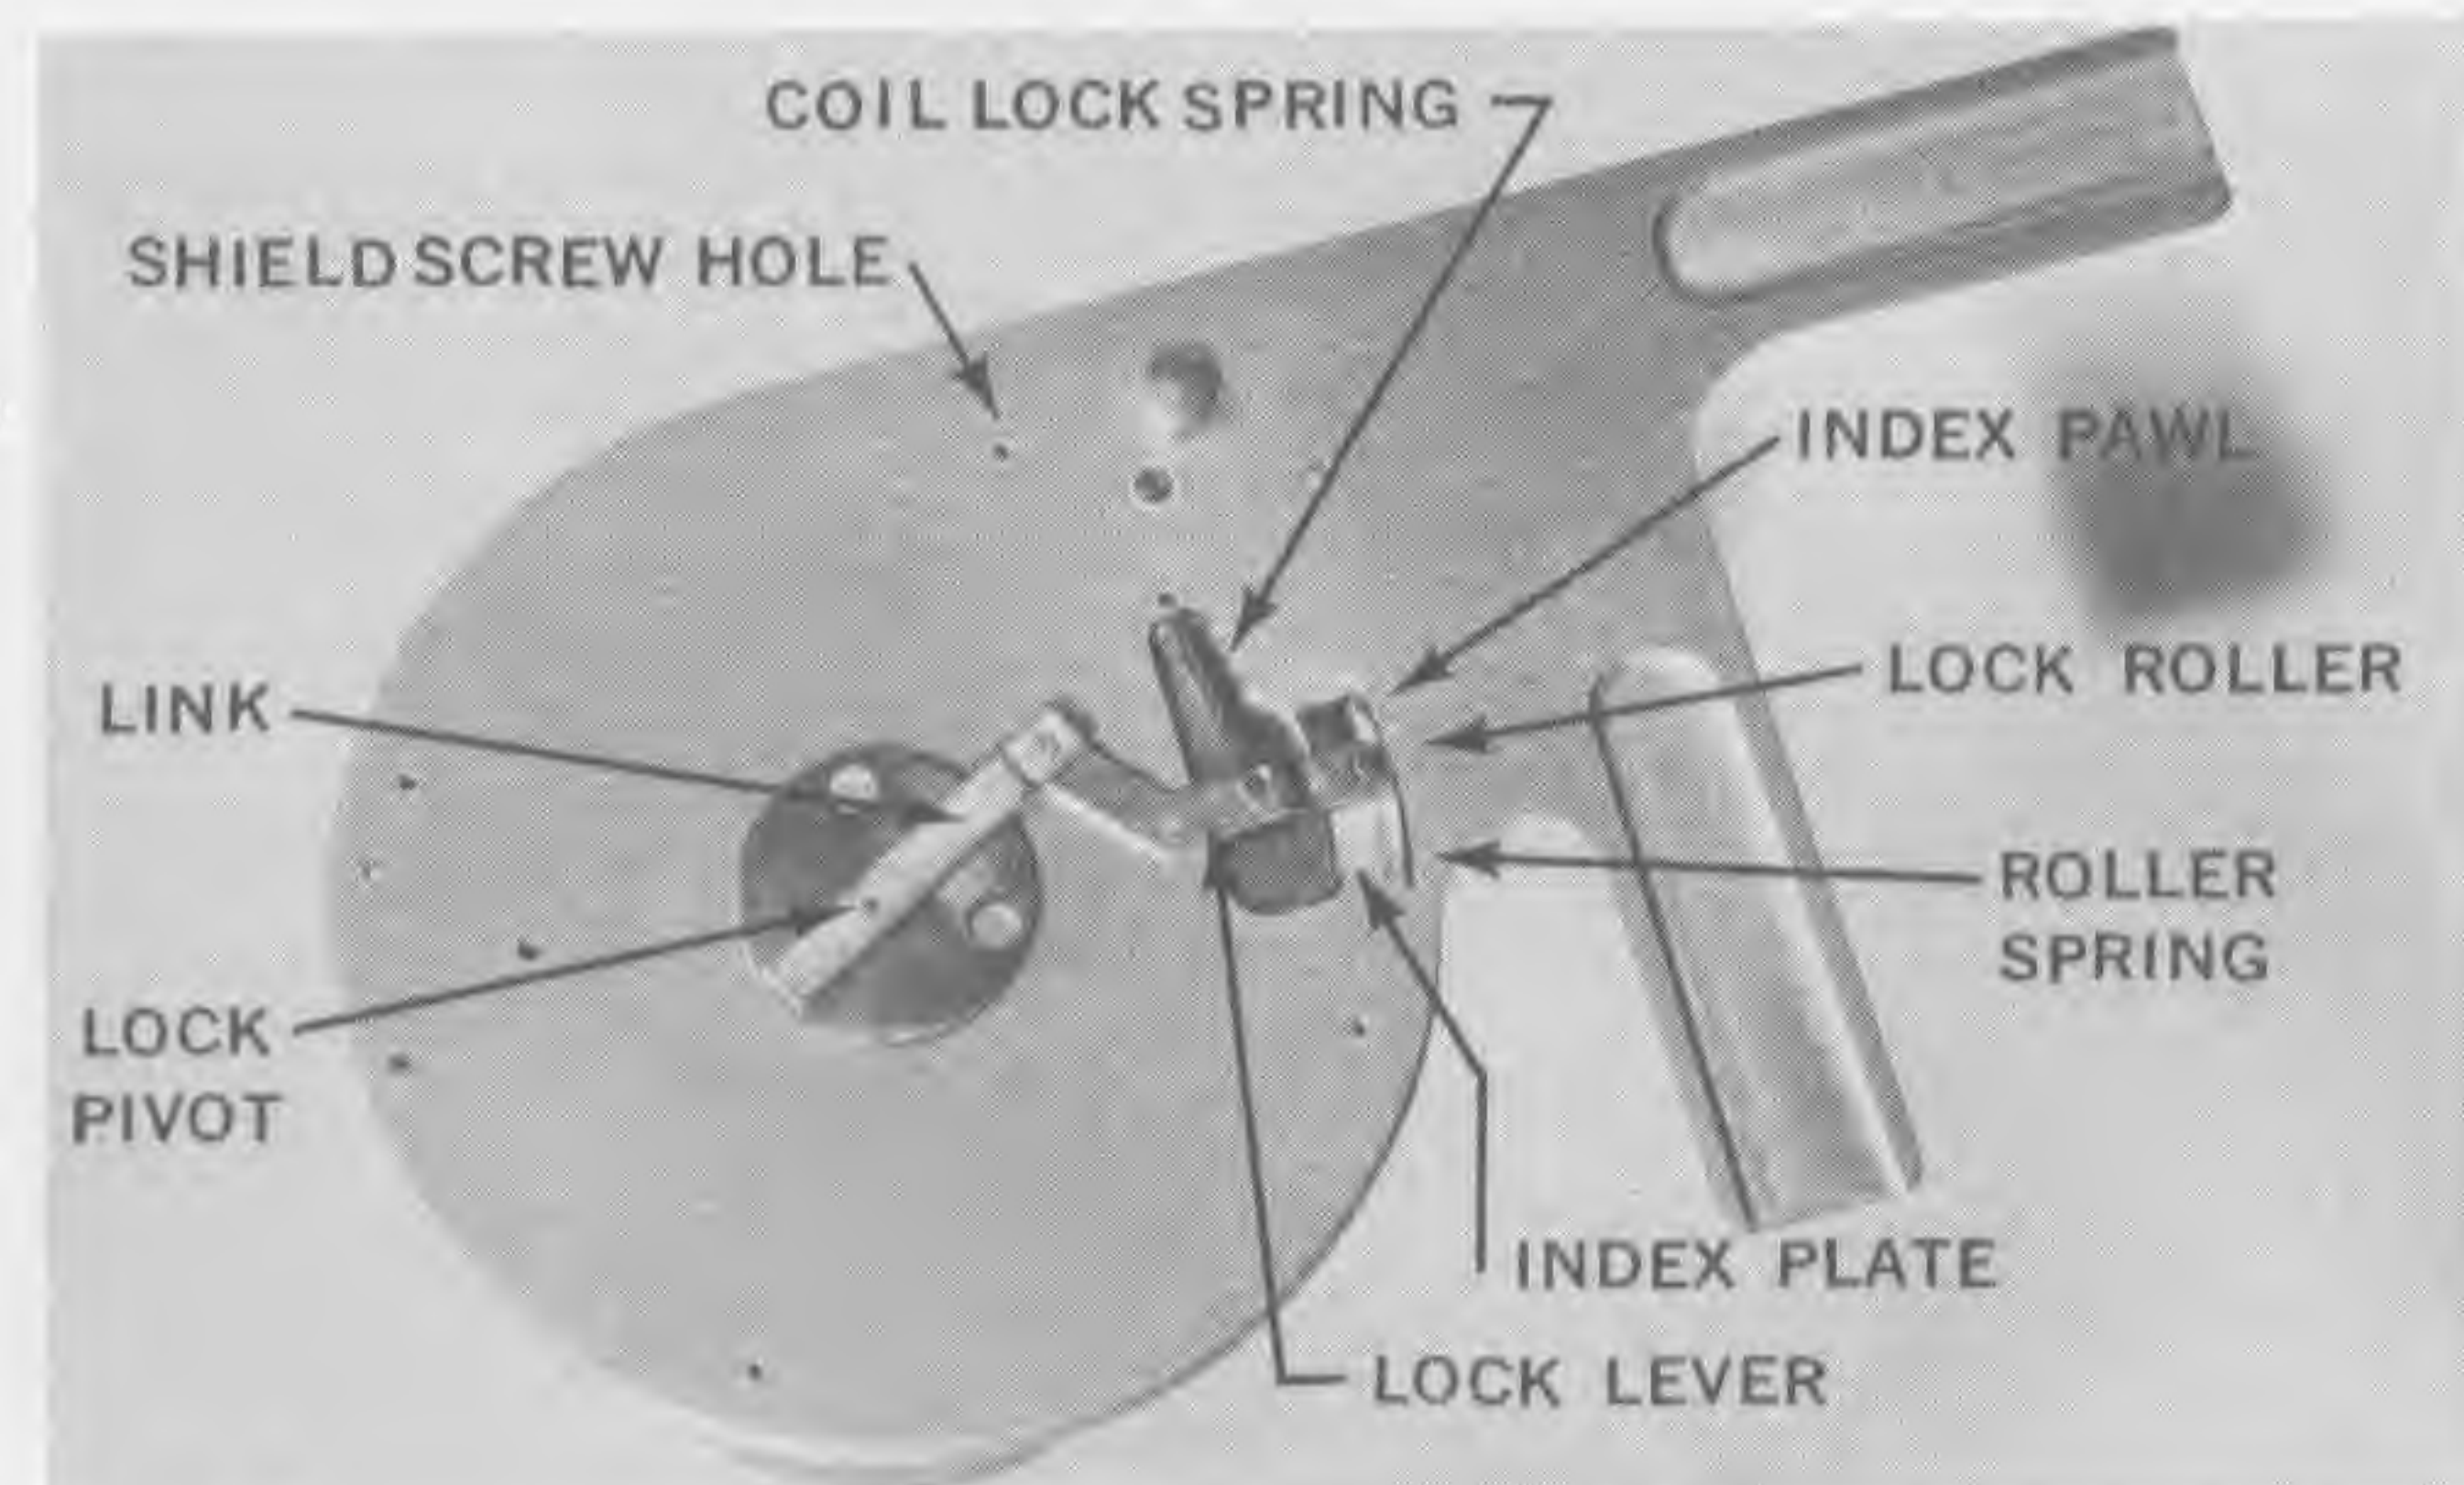

Fig. 25
2. While holding the skid button in place, unscrew the four shield screws (Fig. 25) and remove the metal shield; carefully lift and remove the skid button.
3. Place a finger on the lock lever (Fig. 25) to hold it in place, and lift and remove the link.
1. Place end of index pawl in one of the index notches in the index plate (Fig. 25).
the pawl and roller spring (Fig. 25). The small end of the roller should face up.
3. Put one end of the coil lock spring[†] into the small hole in the lock lever; place the other end of the spring in the appropriate hole in the base plate (Fig. 25).
6. Put link in place (Fig. 25).